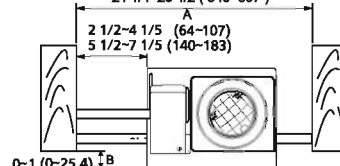

Fig.11
- Insert the suspension bracket I and II into the fan body and suspension bracket III or IV into the adaptor. (Select the suspension bracket connection holes as shown below) (Fig.10, Fig.11)
- Install the suspension bracket to joists by using long screws (ST4.2X20)(Fig.11) and secure it to the fan body by using screw II (ST4.2X14). (Fig.12)